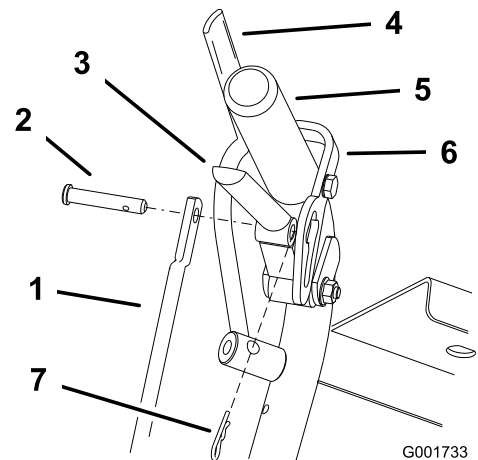

Figure 42
1. Adjust the rod length by releasing the drive lever and removing the hairpin cotter pin and clevis pin. Rotate the rod in the rod fitting (Figure 42).
4. Place the clevis pin into the drive lever (Figure 42).
6. Install the hairpin cotter pin between the drive levers and the neutral locks and into the clevis pins (Figure 42).